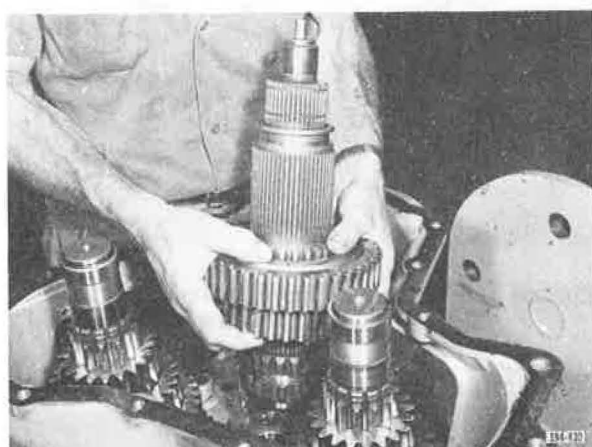

Figure 5-592. Removing Front Mainshaft Assembly
5. Remove front mainshaft assembly. See Figure 5-592.